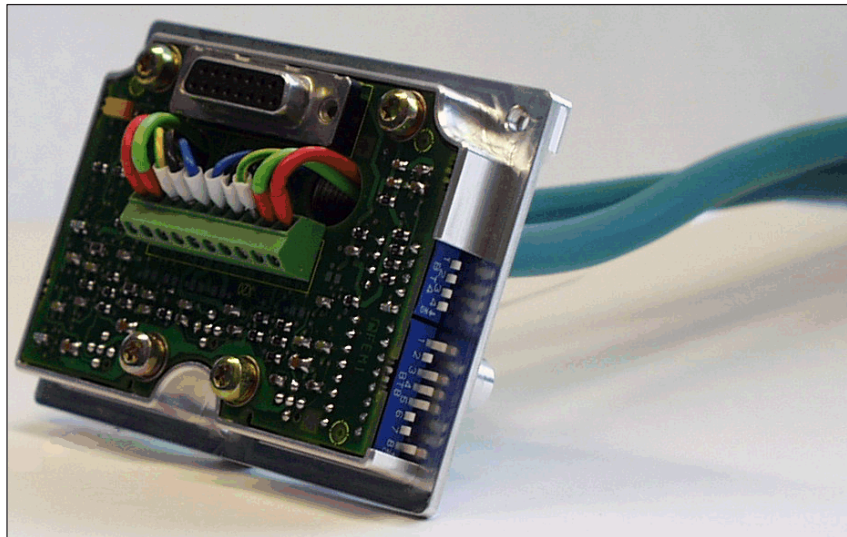

Fig. 2-33 PROFIBUS unit which has been connected up: Rear view
- Rear side → refer to Fig. 2-33